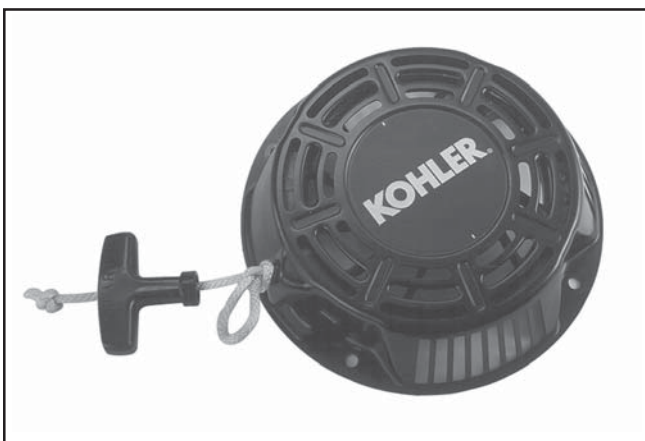

Figure 7-4. Removing Starter Handle.
2. Pull the rope out approximately 12" and tie a temporary (slip) knot in it to keep it from retracting into the starter. See Figure 7-4.